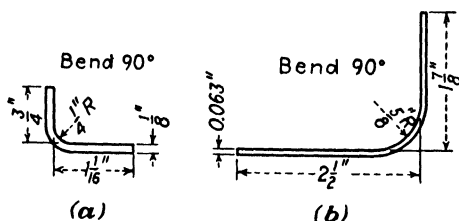

Fig. 250.
1. Find the over-all length of the flat pattern of the fittings shown in Fig. 250. Notice that it will first be necessary to find the bend allowance.